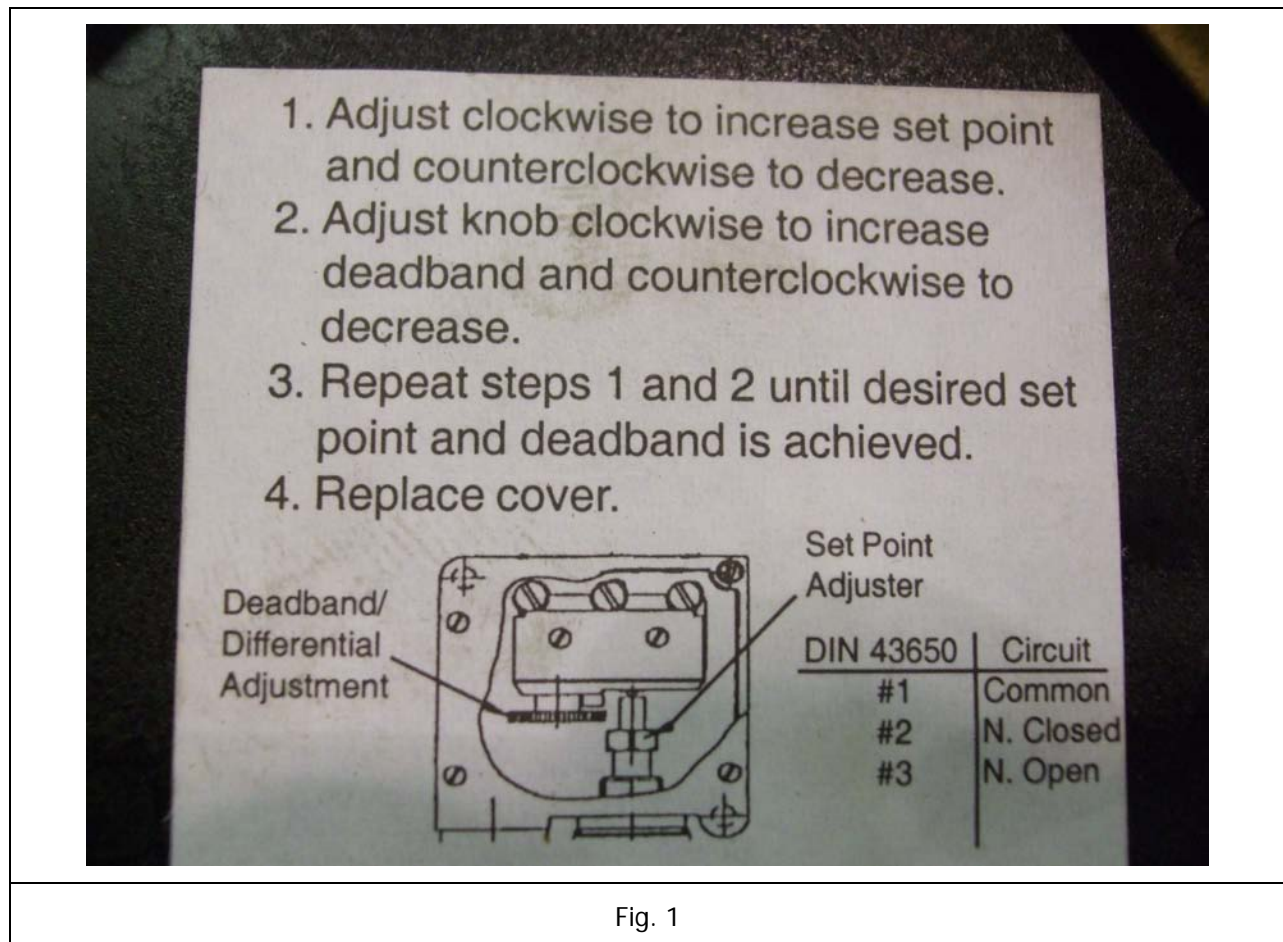

Fig. 1
3. Adjust the Set Point for pump/motor to stop [set point is 2,200 psi, +/- 50 psi]. The Set Point is adjusted by turning the "Set Point Adjuster" (see Fig. 1).
4. Set the Deadband/Differential Adjustment for pump/motor to start [setting is 1,800 psi, +/- 50 psi]. The Deadband/Differential is set by turning the "Deadband/Differential Adjustment" knob/wheel (see Fig. 1).